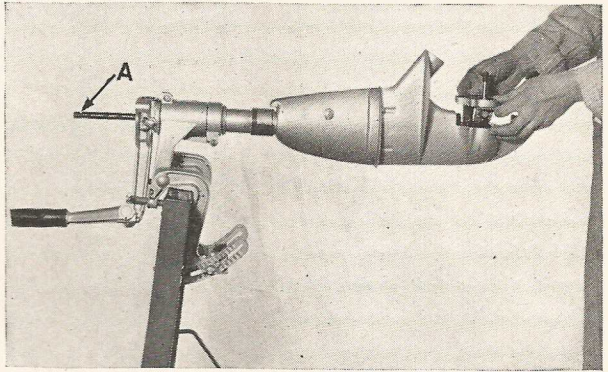

Fig. 43.—Showing removal of gear case head from lower unit.
1. Partially withdraw drive shaft as shown Fig. 43 A.
2. Remove pump housing and gear case head — each held in position by three screws. Fig. 43 and 44.